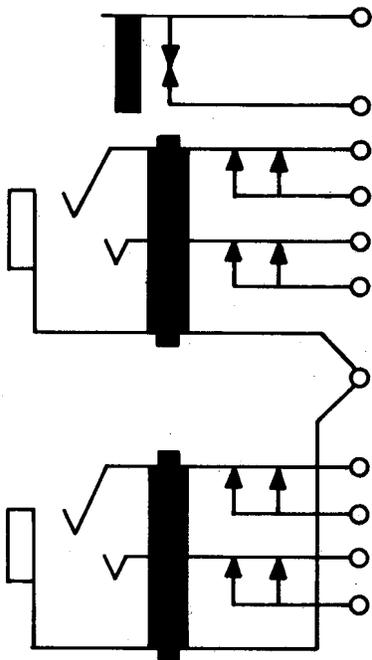

Fig. 2—601A or AM Jack
2.02 **601A and AM:** These are single-mounted twin miniature jacks (Fig. 2).